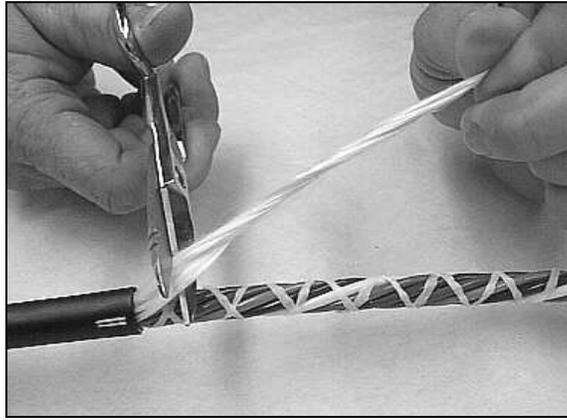

Figure 25 - Cut and remove the dielectric strength elements at the required length.
6.15 Refer to the splice closure instructions to determine the length of the strength elements that is required for strain relief. Cut and remove the dielectric strength elements at the required length (Figure 25).